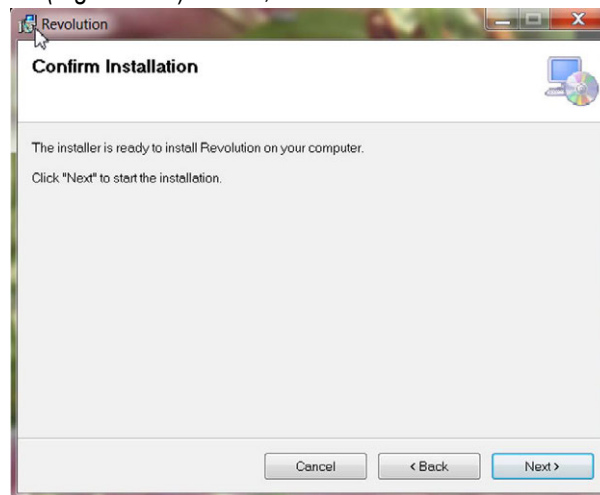

Figure 4-38. Confirm Installation Screen
6. Next is the **Confirm Installation** (Figure 4-38) screen, click **Next**.